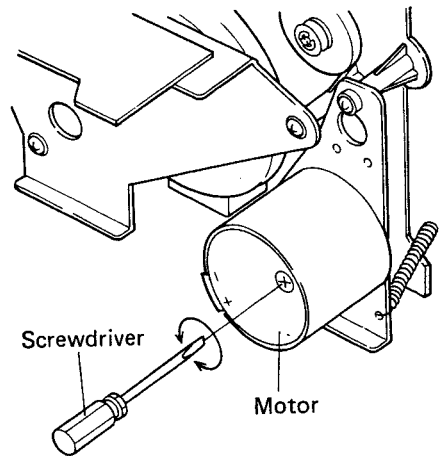

Fig. 8-1 Adjustment of tape speed
4. Rotate the semi-fixed resistor clockwise to increase tape speed and counterclockwise to decrease it (Fig. 8-1).